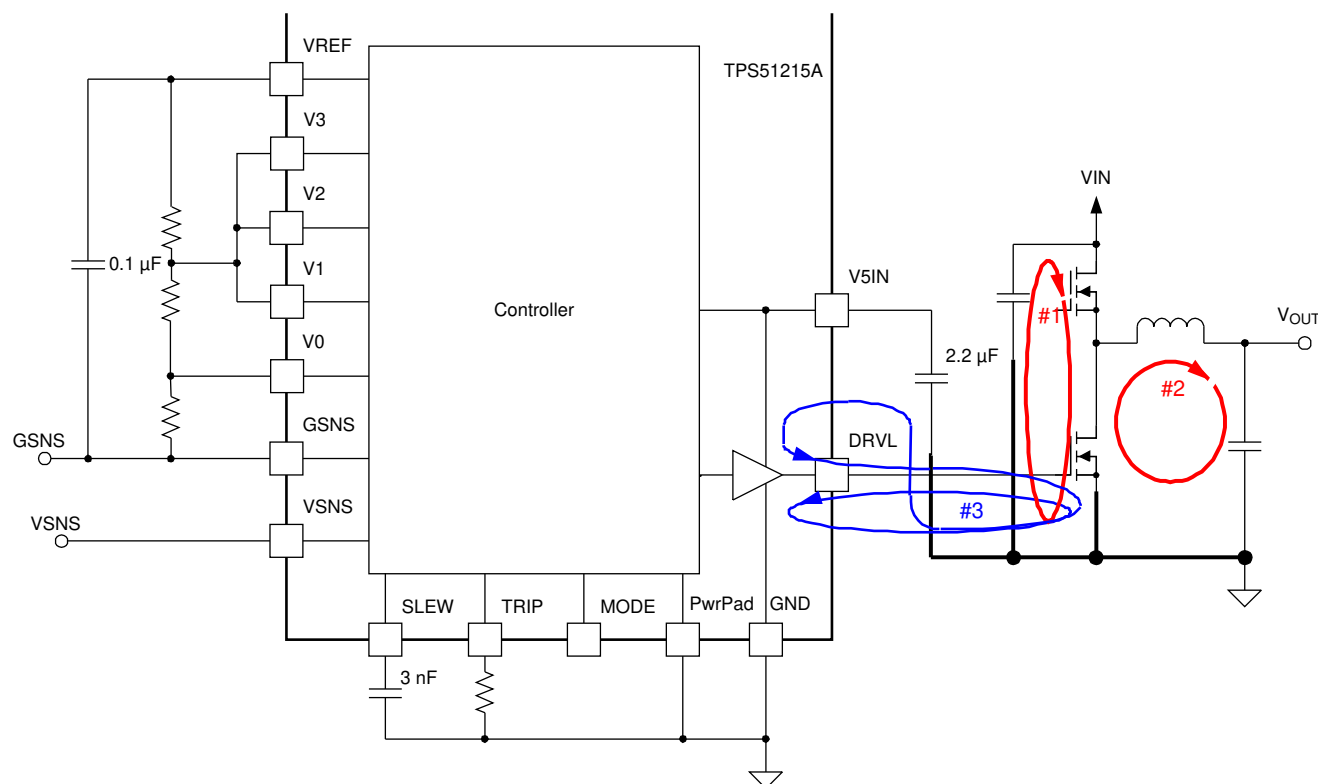

Figure 26. DC/DC Converter Ground System
- Loop #1. The most important loop to minimize the area of is the path from the V_{IN} capacitor(s) through the high and low-side MOSFETs, and back to the capacitor(s) through ground. Connect the negative node of the V_{IN} capacitor(s) and the source of the low-side MOSFET at ground as close as possible. (Refer to loop #1 of Figure 26)
- Loop #2. The second important loop is the path from the low-side MOSFET through inductor and V_{OUT} capacitor(s), and back to source of the low-side MOSFET through ground. Connect source of the low-side MOSFET and negative node of V_{OUT} capacitor(s) at ground as close as possible. (Refer to loop #2 of Figure 26)
- Loop #3. The third important loop is of gate driving system for the low-side MOSFET. To turn on the low-side MOSFET, high current flows from V5 capacitor through gate driver and the low-side MOSFET, and back to negative node of the capacitor through ground. To turn off the low-side MOSFET, high current flows from gate of the low-side MOSFET through the gate driver and PGND, and back to source of the low-side MOSFET through ground. Connect negative node of V5 capacitor, source of the low-side MOSFET and PGND at ground as close as possible. (Refer to loop #3 of Figure 26)